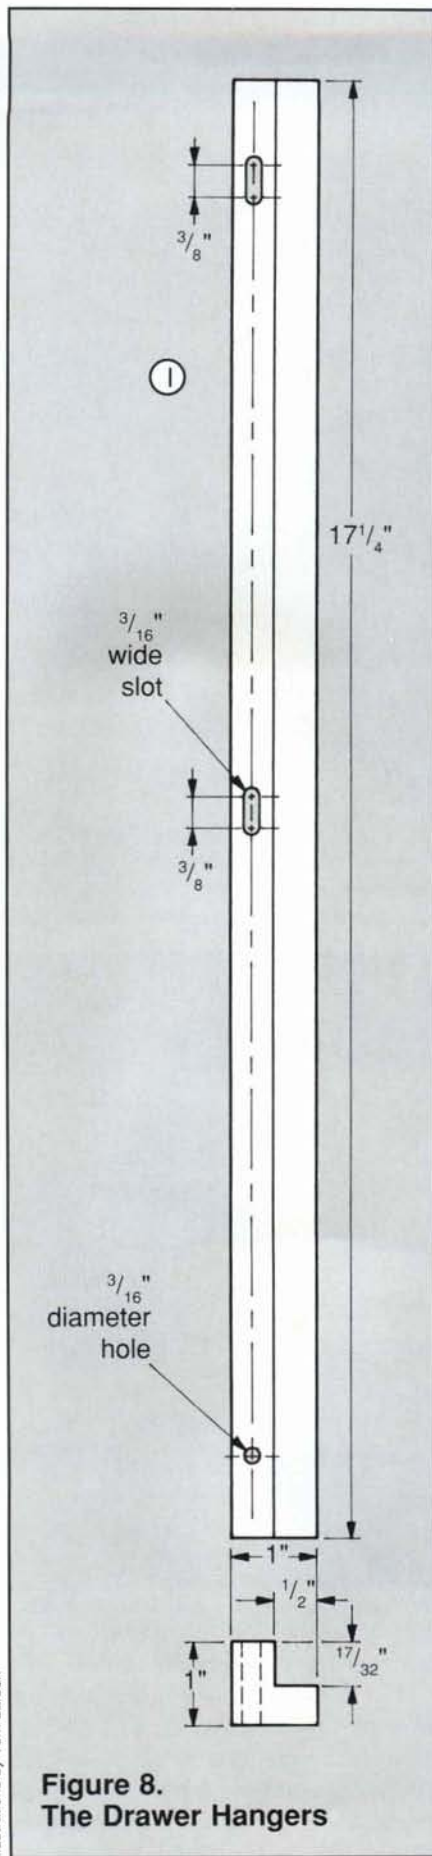

Figure 8.
up. While the glue is setting, you can cut the drawer runners (H) and make the drawer hangers (I) according to Figure 8. When the drawer assembly has dried, glue the runners to the outside of the sides, flush with the top edge.